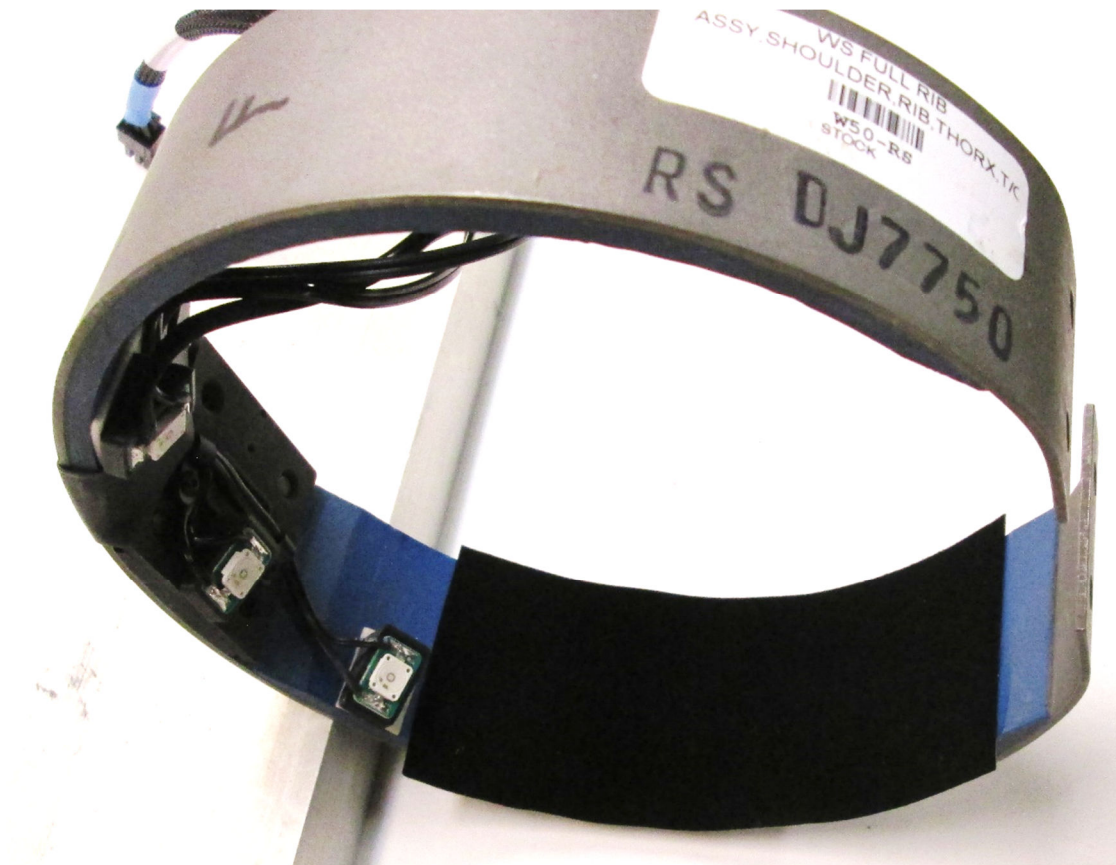

Figure 17. Flock paper applied from outer LED to rib-mounting end
4. **Apply.** Remove the backing material from the flock-paper strip and stick it down, starting from one of the outer LEDs and applying the paper toward the rib-mounting end (Figure 17).